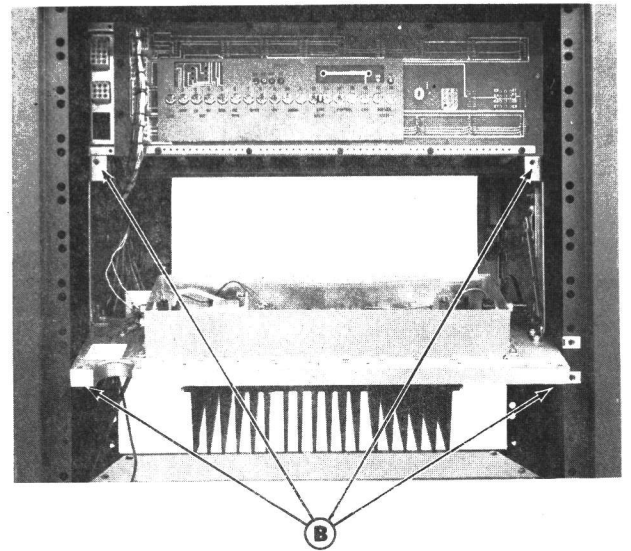

Figure 3 - Access to Power Amplifier
1. Remove the top two screws (B) on the Intermittent or Continuous Duty Power Amplifier. Refer to Figure 3.